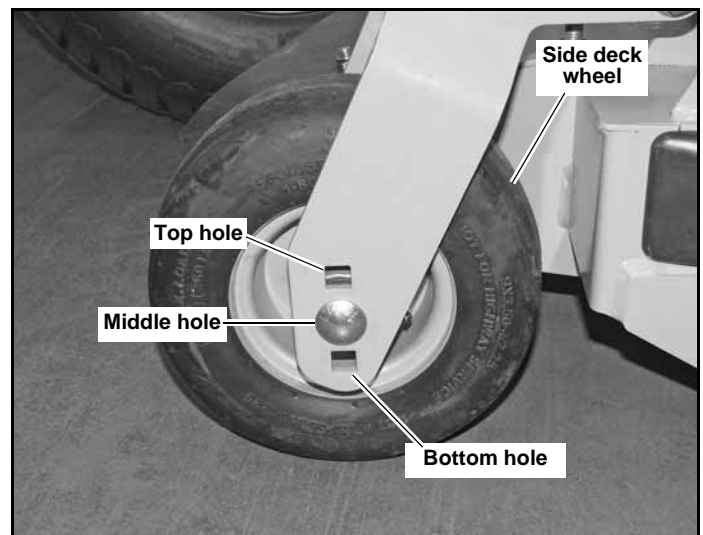

Figure 3-17
8. Unbolt the side deck wheel and move it to the correct hole. Retighten the nut. Figure 3-17